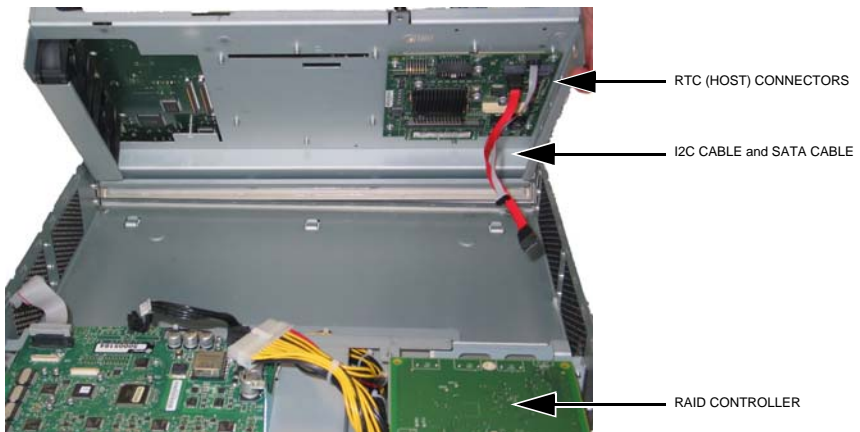

Figure 39: Disconnecting the I2C Cable and the SATA Cable - MXe III
- For the MXe III, disconnect the I2C and SATA cables from the hard drive backplane (or RAID controller if installed), and then disconnect the I2C and SATA cables from the RTC (host) IDE connector (see Figure 39).